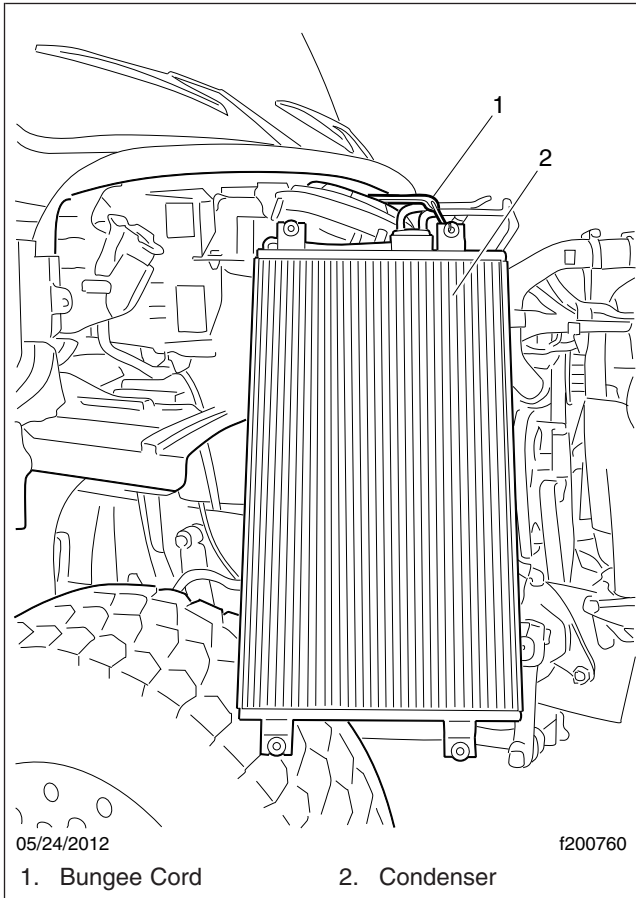

Fig. 10, Securing the A/C Condenser
- 10.4 Carefully move the condenser around and set it on the right front tire. Secure it as needed. See Fig. 10.